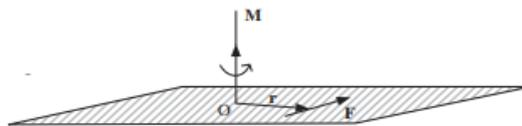

Figure Q3d: Moment vector.
- d) Determine the moment vector (**Figure Q3d**), M , about the origin, O, of a force, $F = 10i - j + 2k$ passing through the point with position vector, $r = 2i - 3j + 5k$.